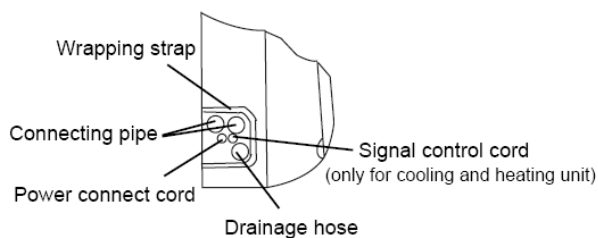

Fig.11-6
2. After wrapping pipes and wires, make them though pipe hole (as shown in fig.11-6).